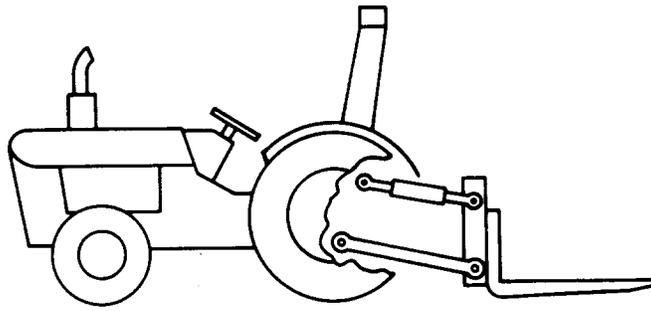

FIGURE 7—
- 4.1.7 Tractor with Three Point Hitch Mounted Forks (see Figure 7)